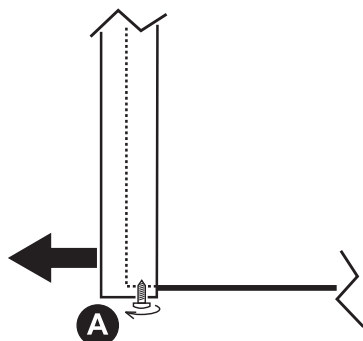

fig. 30
1. Using a screwdriver, partially unscrew the 2 screws "A" (fig. 30)